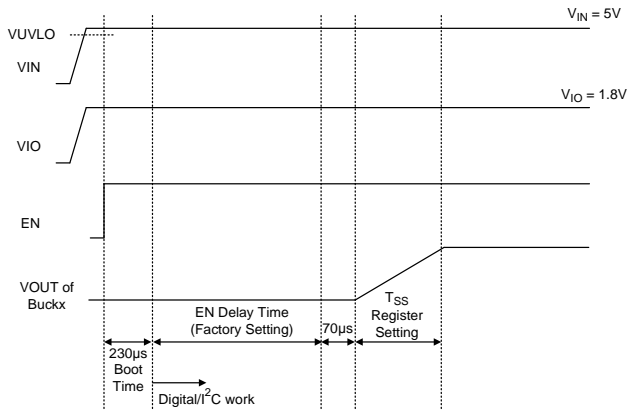
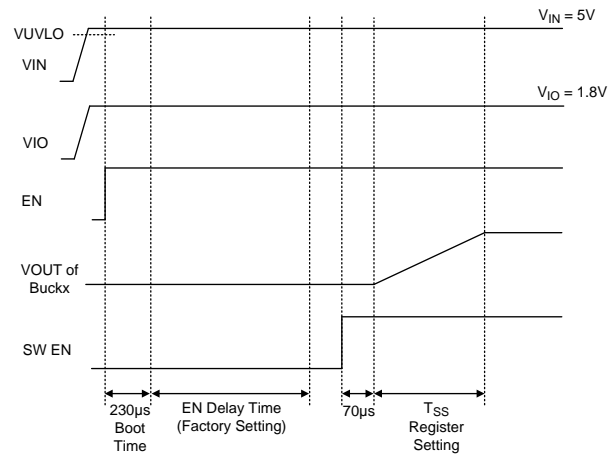
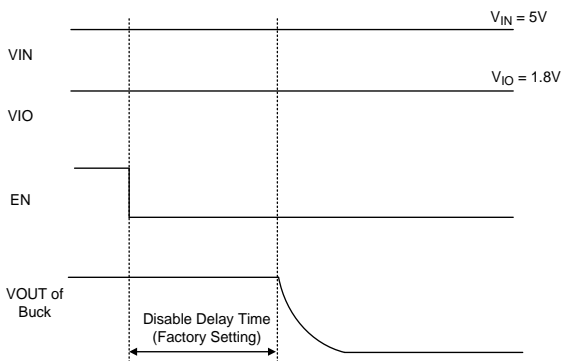
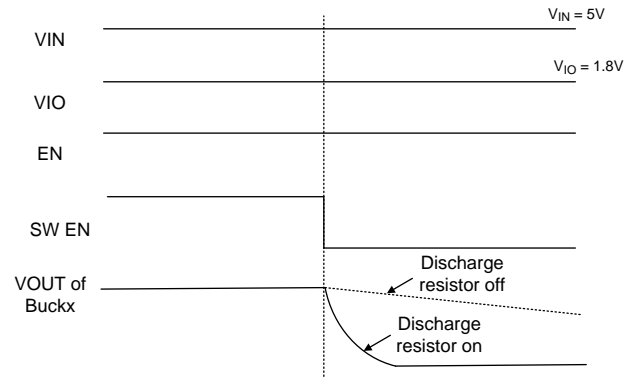

Figure 3. Start-up Sequence
Figure 4. Start-up Sequence by Software
Figure 5. Power-off Sequence
Figure 6. Power-off Sequence by Software
enable control, to enable or disable the device. If V_{EN} is held below a logic-low threshold voltage (V_{ENL}) of the enable input (EN), the converter will enter into shutdown mode and reset all digital function (I²C), that is, the converter is disabled even if the VIN voltage is above VIN under-voltage lockout threshold (V_{UVLO}). During shutdown mode, the supply current can be reduced to I_{SHDN} (20 μ A or below). If the EN voltage rises above the logic-high threshold voltage (V_{ENH}), the device starts switching. When appropriate voltages are present on the VIN, AVIN, VIO and EN pins, the RT5800 will begin digital function, switching and initiate a soft-start ramp of the output voltage. After the device is turned on and VIO is ready, all digital functions including I²C communication start to work in a boot time with 230 μ s (typ.). The voltage of VIO can be used to supply power to digital function and it is recommend that enable the device after VIO voltage is ready. The RT5800 supports enable delay time setting (factory setting) and soft-start slew rate setting for each Buck. The soft-start function is used to prevent large inrush current while the converter is powered up. Register 0x55[5:4], 0x6F[5:4] and 0x89[5:4] let soft-start time of each be programmable. The start-up sequence is shown in Figure 3. IC also implements enable control by software, it can be set in the registers: 0x49[0], 0x4B[0], 0x63[0], 0x65[0], 0x7D[0] and 0x7F[0]. If the output voltage of Buck is default disable which is only set by factory, the output voltage starts to ramp up by software and the Figure 4 shows the start-up sequence. For disable function, the device supports disable delay time setting (factory setting) by external EN pin and the output voltage ramps down with default discharge resistor. The discharge resistor can be controlled to on or off by register 0x42[0], 0x5F[0] and 0x79[0] when the converter is disabled by software. The power-off sequence is shown in Figure 5 and Figure 6.